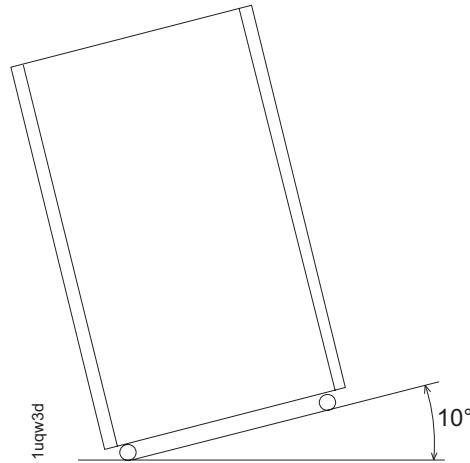

Figure 13. Maximum tilt for a packed frame is 10°
3. To compensate for the weight of the storage system shipment, ensure that the loading ramp at your site does not exceed an angle of 10° . (See Figure 13.)